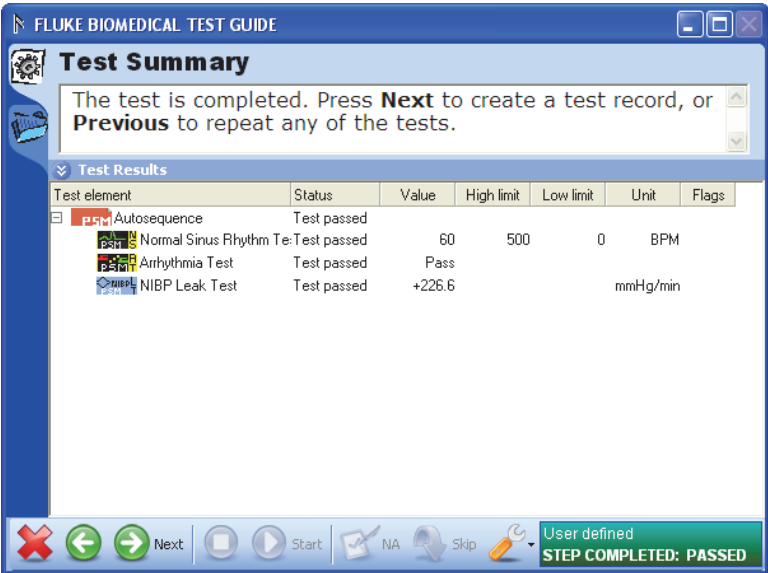

Figure 3-15. Test Summary after Autosequence
- Click  to show the test summary window shown in Figure 3-15.